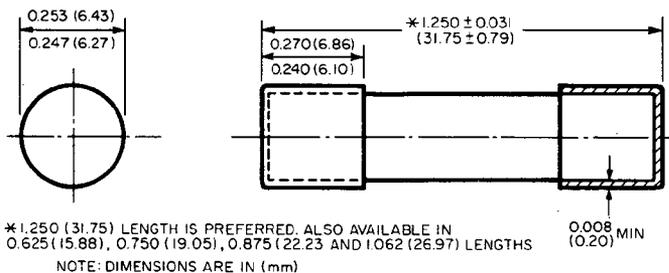
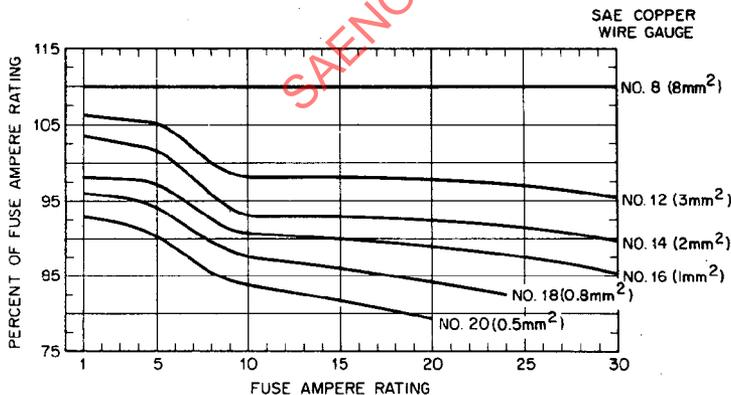
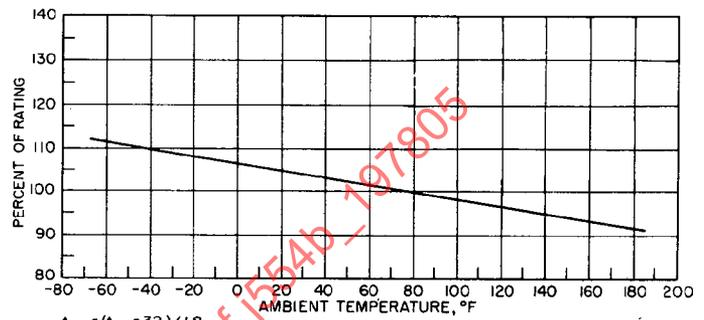

FIG. 1—FUSE DIMENSIONS
FIG. 2—FUSE DERATING FOR VARIOUS WIRE SIZES (1.250 IN (31.75 MM) LENGTH)
FIG. 3—EFFECT OF AMBIENT TEMPERATURE ON AMPERE RATING OF SAE SPECIFICATION FUSES
4. **Construction**—Fuse caps shall be tightly attached to the glass tube and the ends shall be square and free of solder externally. Fuse elements shall be clearly visible through the glass tube. Fuses shall be capable of being passed through a tubular gage having a length as long as the fuse and having a uniform inside diameter of 0.258–0.259 in (6.55–6.58 mm). Preferred and other fuse dimensions are shown in Fig. 1.
5.1 **General**—This standard applies to fuses of all lengths. However, the fuse derating chart shown in Fig. 2 applies specifically to the preferred length of 1.250 in (31.75 mm). The fuse manufacturer should be contacted for recommendations on other available lengths. (See Fig. 1.)
5.2 **Ampere Rating**—This standard covers ampere ratings up to and including 30 A. Preferred ampere ratings are shown in Table 1. These ratings are determined at 75°F (24°C) ambient temperature. Approximate capacity change with respect to temperature is shown in Fig. 3 for all length fuses. The use of fuses in ambient temperatures beyond the limits shown is not recommended without thorough testing experimentally in the vehicle. It is further recommended that fuses not be loaded to 100% of the adjusted capacity, according to ambient temperature, due to electrical system variances. See Fig. 2 for additional deratings when fuses are used on cable gage sizes other than the test gage wire.